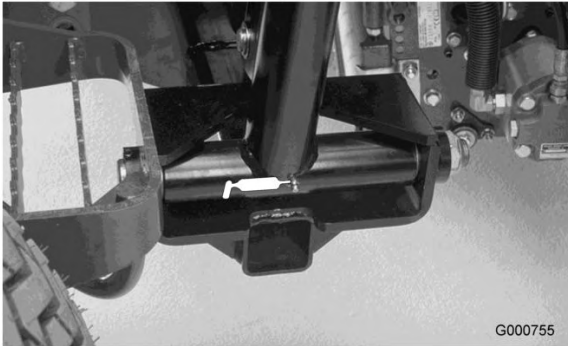

Figure 48
- Lift arm pivot (3) (Figure 48)